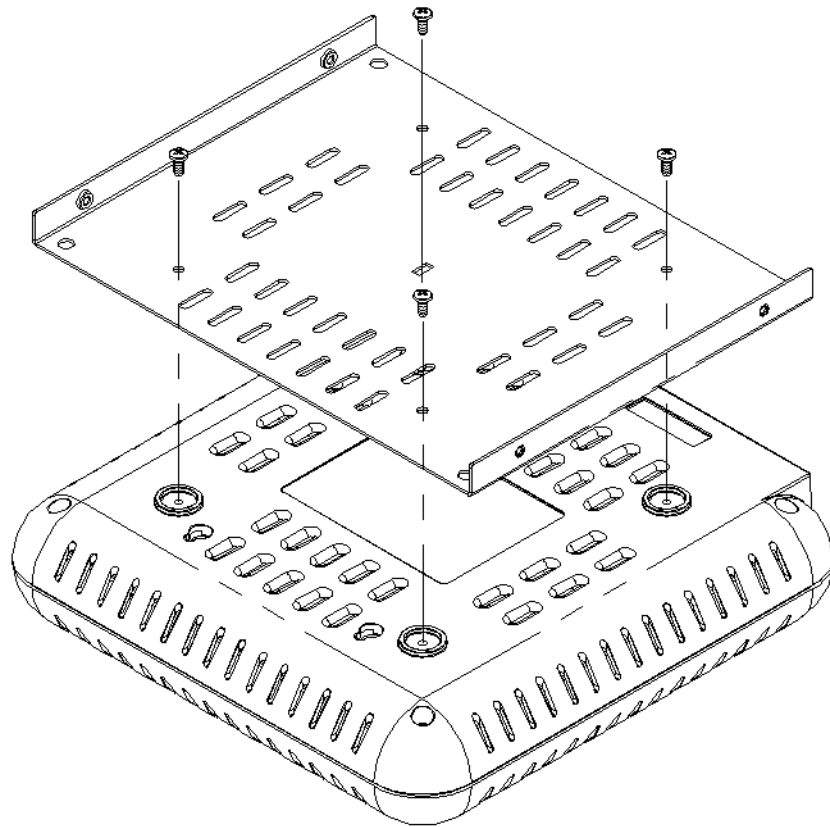

Figure 15: Attaching Rear Plate to Side Brackets
4. Attach BSAP-1700, with rear plate installed, to the side plates as shown in Figure 15. Secure the assembly using #6x1/4" screws with tooth washers.